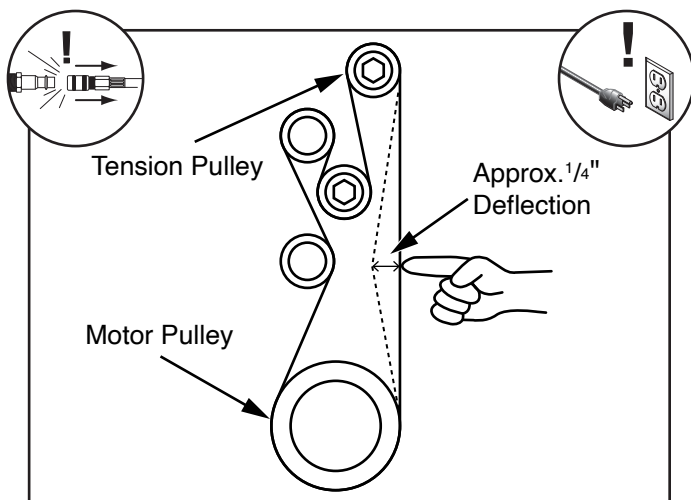

Figure 123. Flush trimmer belt deflection.
3. Press middle of flush trimmer drive belt with moderate pressure. Proper tension is achieved when deflection is approximately $\frac{1}{4}$ " as illustrated in **Figure 123**.